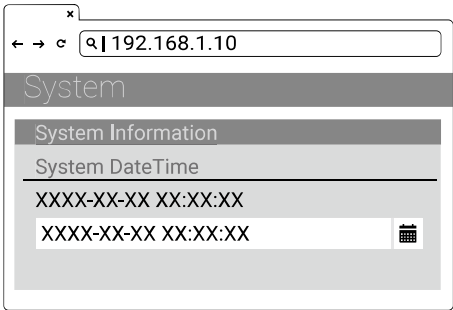

Figure 4-13. Select Date/Time
- 4) Select the calendar button on the right to set the current date and time. Refer to the following figure 4-13.